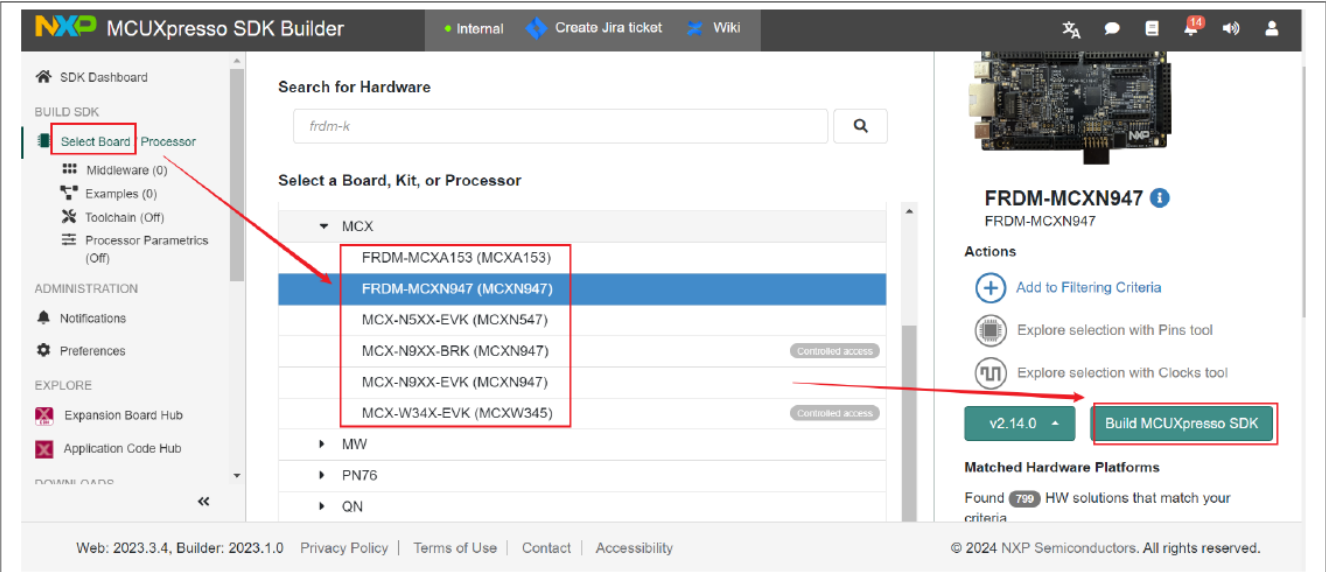
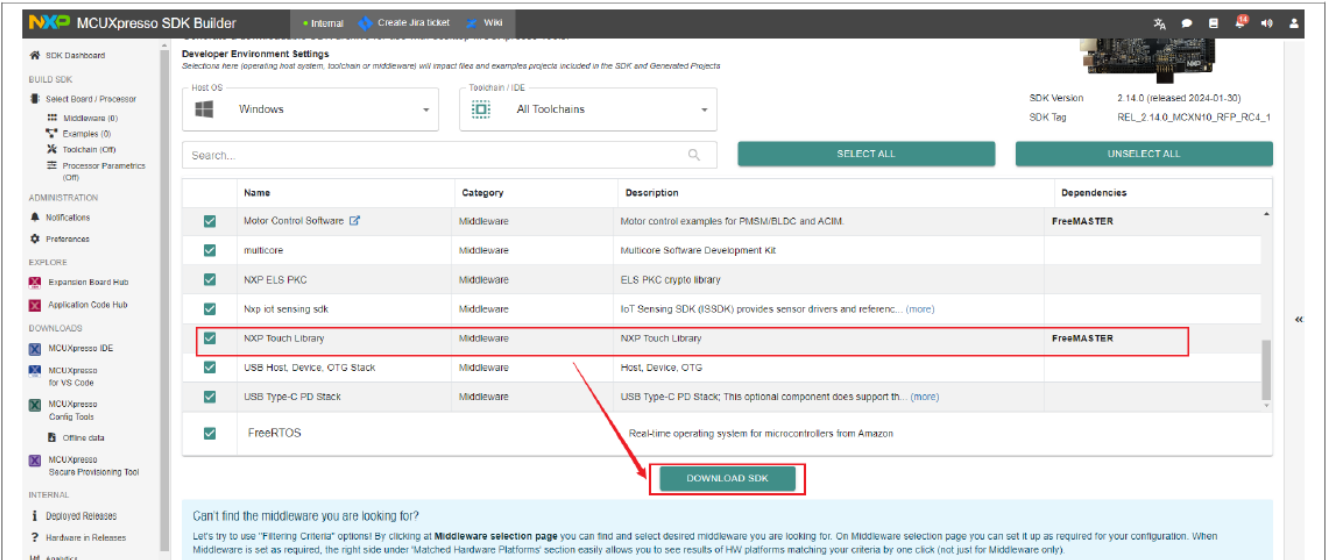

Figure 10. Build MCUXpresso SDK for selected board
Figure 11. Add the touch library to SDK
- The process is shown in Figure 10, Figure 11, and Figure 12.